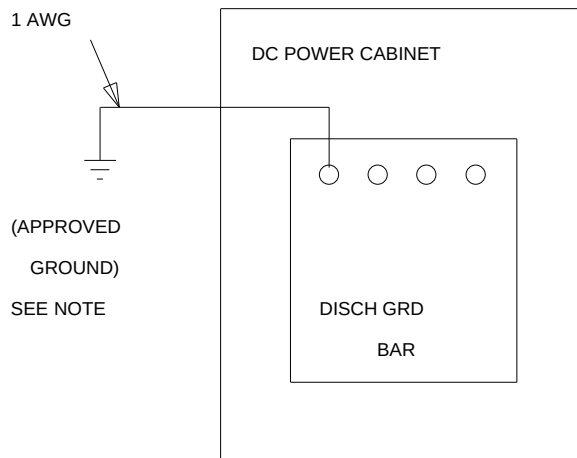

Figure 4-19. Power Plant Grounding
2. Route the ground wire out of the cabinet and terminate it on the approved ground (see Figure 4-19). The approved ground must be identified with an AT&T supplied grounding tag (FORM 15657NR or equivalent). See Note.